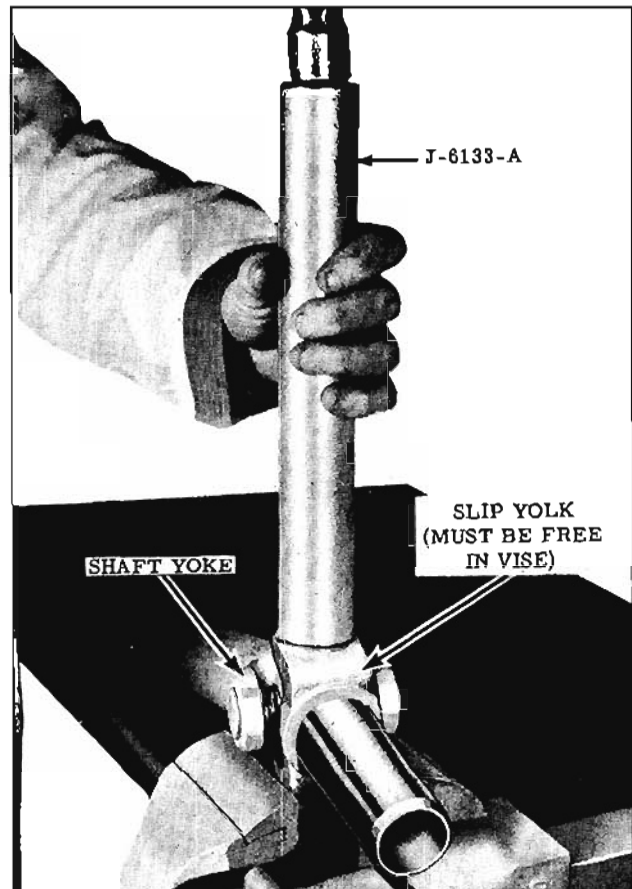

Fig. 10-3 Partial Bearing Removal (Saginaw)
3. Apply force on yoke around bearing. (Fig. 10-3) This will drive the slip yoke down causing spider to force bearing partially out of the yoke.